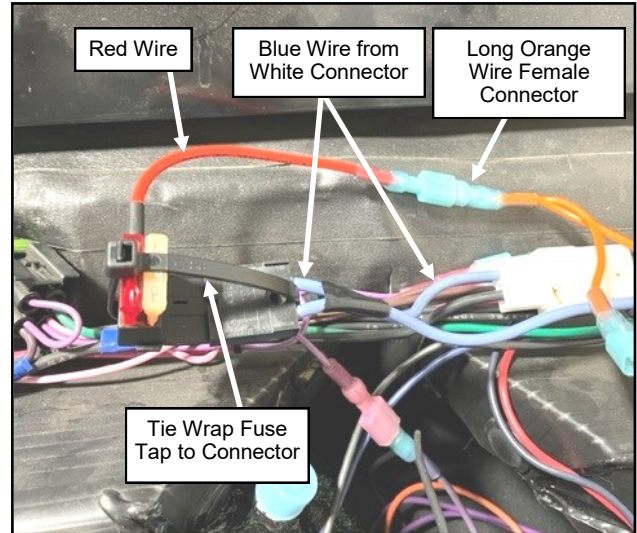

Fig. 2.12 (Connect Fuse Tap Wire Harness)
- 2.12** Remove the 25amp fuse from the fuse holder and install the fuse tap as shown in fig. 2.12.